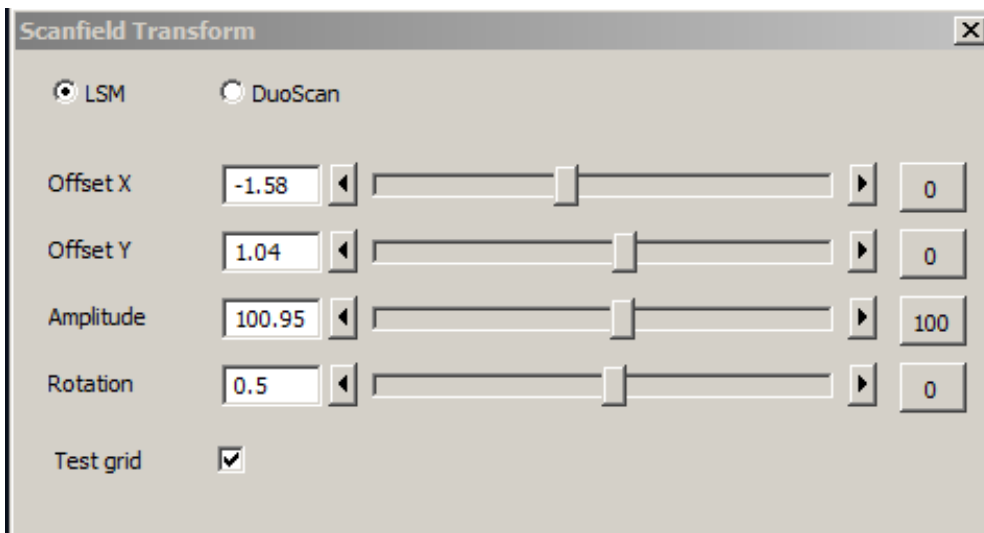

Fig. 5-21 Scanfield Transform macro interface
- Start the Image Match (Scanfield Transformation) Macro (Fig. 5-21).
- For LSM 7 *MP* with two scanners, focus onto the grid using the imaging scanner (choose "LSM" in the Macro window) and position the center of the grid sample into the center of the image. To do this project the virtual grid into the image by checking the box next to **Test grid** in the macro window (Fig. 5-21) and try to overlay the grid sample with the Test grid in the image moving the sample stage accordingly. Fine adjust the image of the grid sample to the Test grid using the buttons for Offset, Amplitude and Rotation.